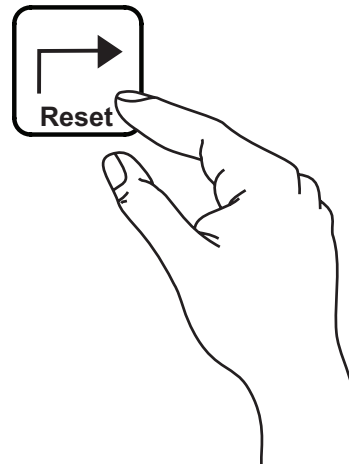

Figure 108. Reset Button
7. Diagnostic mode will remain active until the **Reset** button (Figure 108) is pressed or if the engine rpm becomes greater than zero.